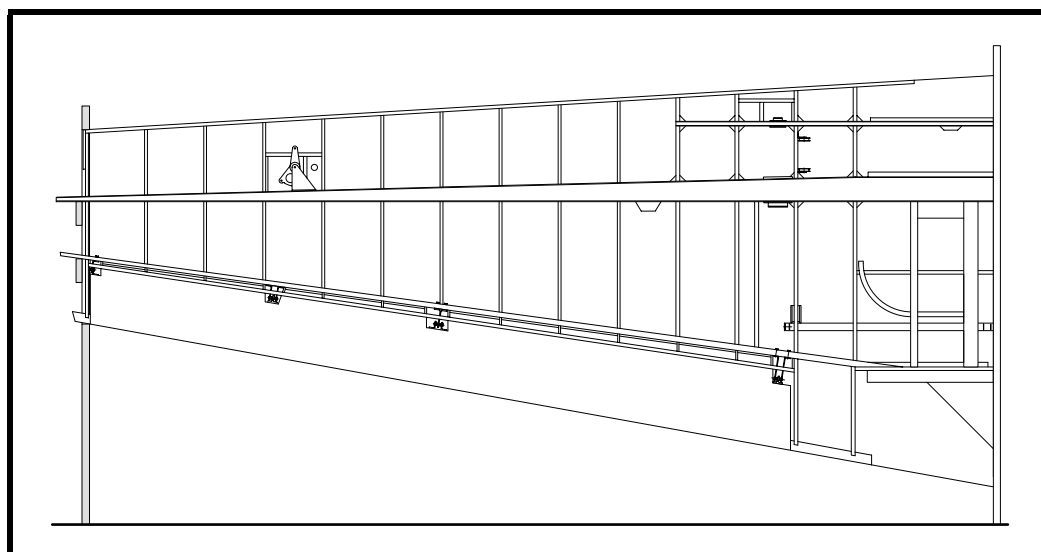

Figure 26
- ❑ For wheel well door installation—fit the upper wheel well ring. This ring must be notched to match the upper seat support. The notches in fuselage frame No. 5 should be only 15mm deep, thus the bottom of the ring must be notched as well. See Figure 26.